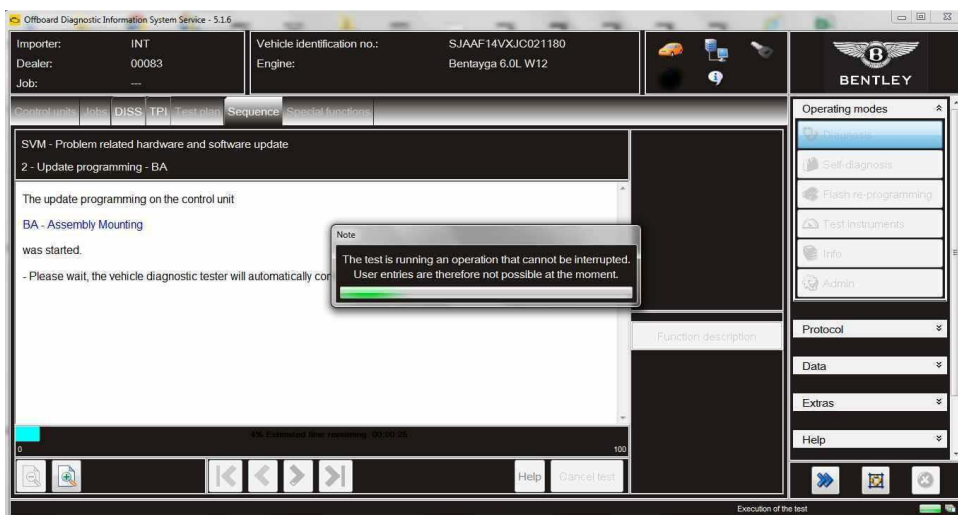

Figure 5
5. The software of 00BA Assembly Mounting will now be reprogrammed (Figure 5). NOTE: Depending on the software part number of the control module your vehicle may skip straight to step 6, if so proceed as instructed.